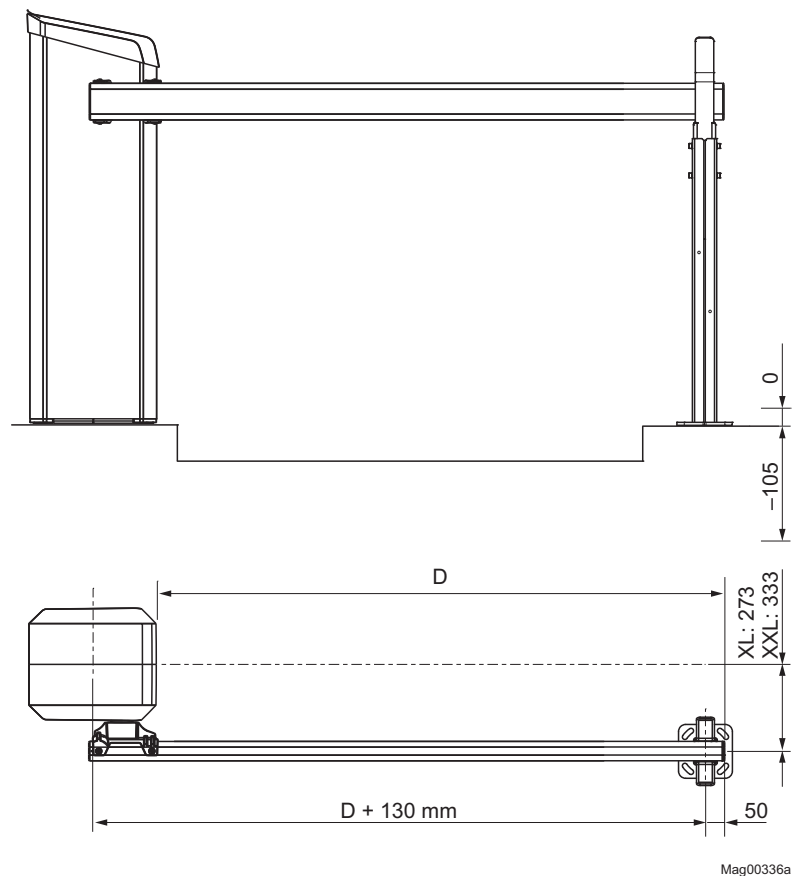

Fig. 16: Dimensions barrier casing – post
- Place post centre at a distance of 50 mm from the barrier boom tip. → See page 50, Fig. 16.
→ See page 44, Fig. 11 and page 51, Fig. 16.